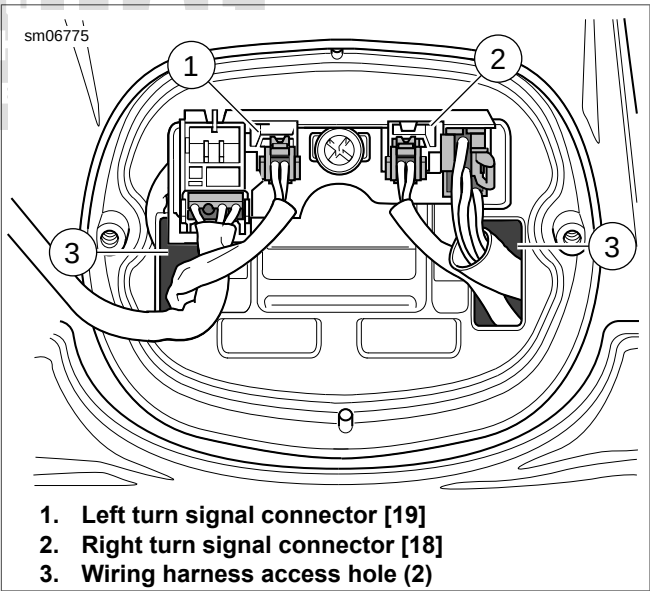

Figure 6-69. Turn Signal Connectors: All Models Except XL 883N, XL 1200X/V/C/CP/CA/CB
4. See Figure 6-69. Remove left and right turn signal connectors (1, 2). Pull turn signal wiring harnesses through harness access holes (3) in tail lamp base.